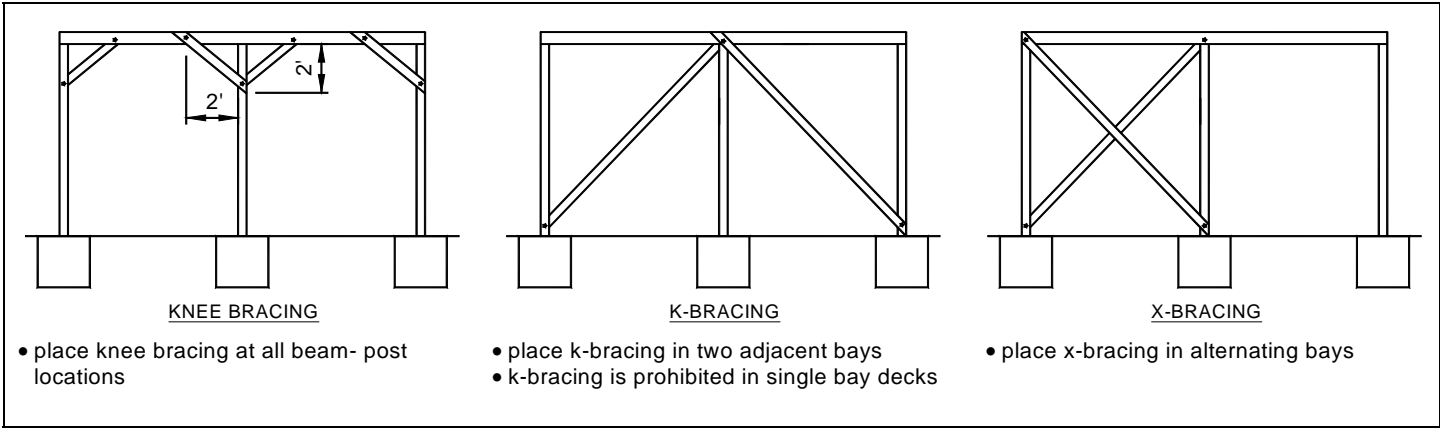
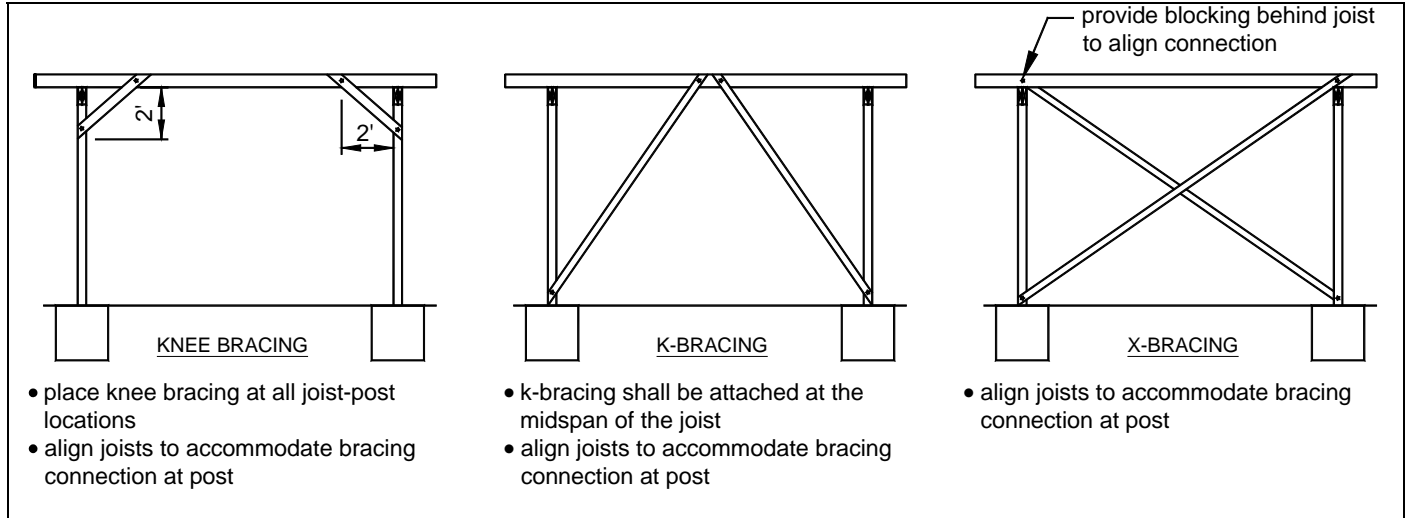

FIGURE 23: DIAGONAL BRACING AT BEAM-POST LOCATIONS (all decks)
FIGURE 24: DIAGONAL BRACING AT JOISTS-POST LOCATIONS (free-standing decks only)
All decks greater than 4'-0" above grade shall resist lateral loading by providing diagonal bracing as shown in FIGURE 23 and in accordance with the following:
- Free-standing decks shall also have diagonal bracing installed parallel to joists at each post location in accordance with FIGURE 24.
- Only one type of diagonal bracing shall be provide in each beam line as identified in FIGURE 23 and each joist line as identified in FIGURE 24.